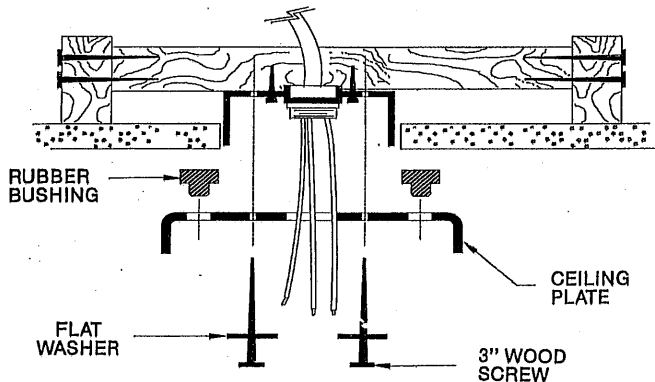

Figure 4A. Installing Ceiling Plate
B. Thread the lead wires through the opening in the ceiling plate and install the ceiling plate to the 2X4 brace which supports the outlet box. Use (2) #10 wood screws 3" long and (2) flat washers for mounting. Drill (2) pilot holes for mounting screws 9/64" diameter. See Figure 4A.